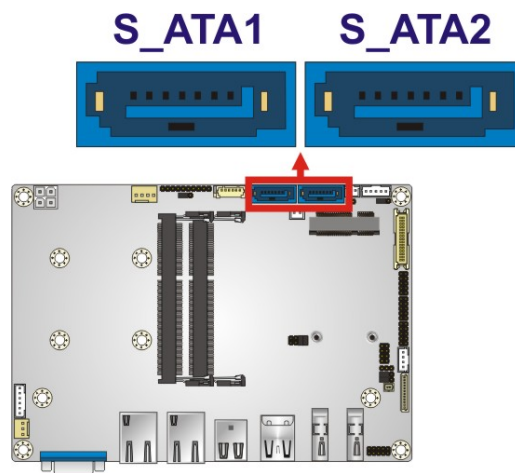

Figure 3-14: SATA Drive Connector Locations
- CN Location:** See **Figure 3-14**